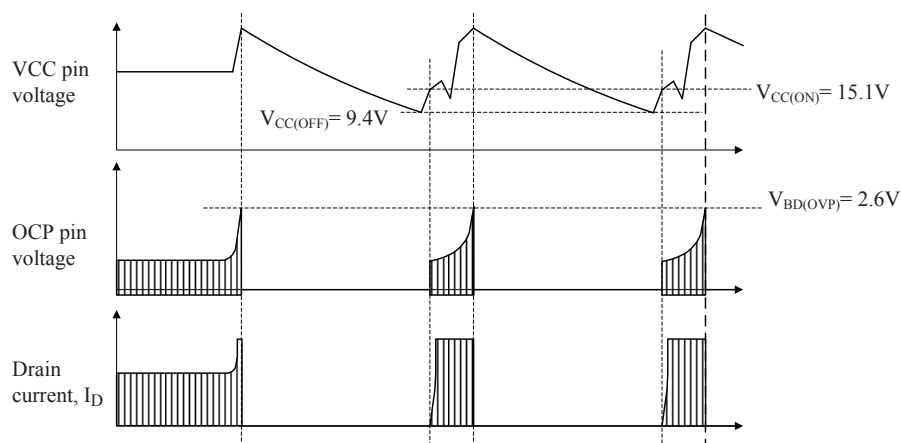

Figure 35. Waveforms when OCP pin OVP is being activated (LC551xD)
• OCP Pin Overvoltage Protection. Figure 35 shows the OCP pin OVP function. When the OCP pin voltage with reference to the S/GND pin reaches $V_{OCP(OVP)} = 2.6\text{ V}$ or more, OVP is activated.